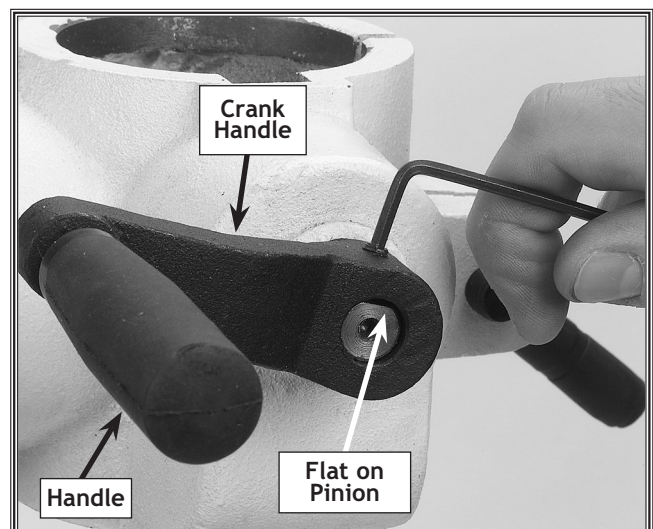

Figure 12. Crank and set screw positioning.
3. Align the set screw in the crank handle with the flat on the pinion shaft and tighten, as shown in **Figure 12**.
4. Thread the handle into the crank handle (**Figure 12**).